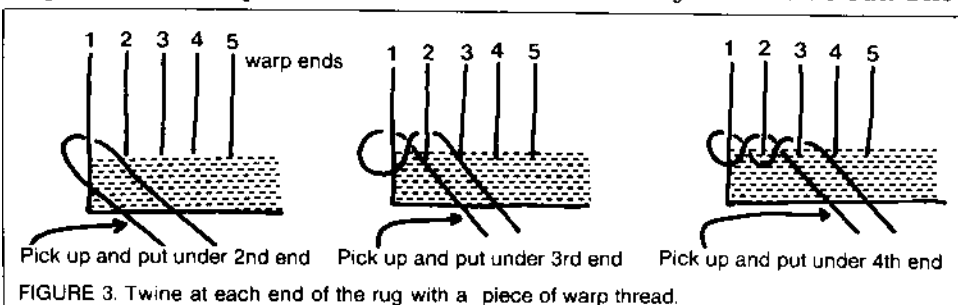

FIGURE 3. Twine at each end of the rug with a piece of warp thread.
**Twining:** Use a piece of warp thread about 3½ to 4 times the width of the rug, and twine all the way across the warp. Be sure to separate the doubled warp threads. This twining will become part of the rug and will help to protect the weft. Leave the two ends of the twining thread hanging loose and incorporate them into the fringe later (see Fig. 3).